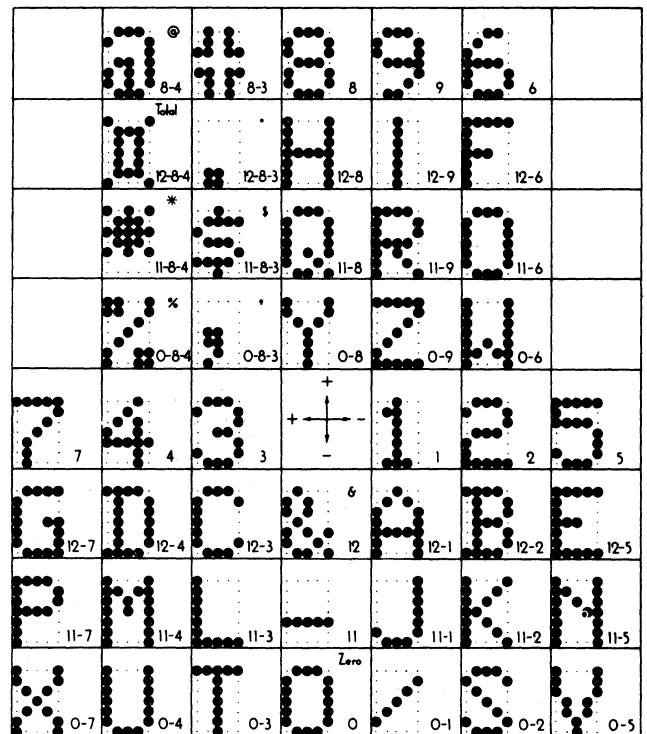

Figure 85. Character Patterns
2. Place the tracing over Figure 76 and shift it for a particular character (see Figure 85).
Figure 85 is a guide to wires used for printing each character; it can be used to determine when extra wires are being picked up in printing. If extra wires are printed, refine the code plate alignment (without code plate stops), steps 7 and 8: